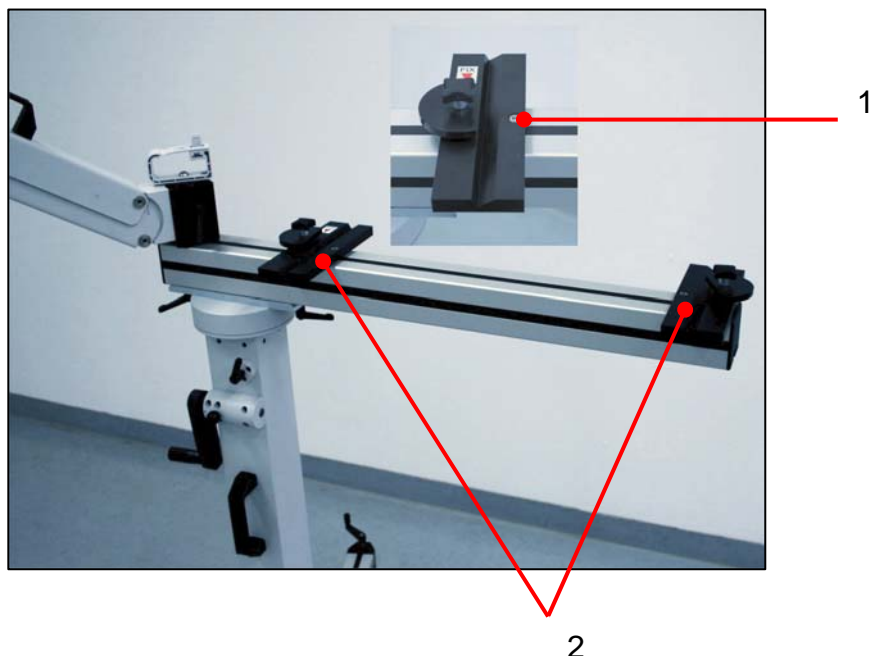

Fig. 28: Installation of the electronics unit holder
2. Secure clamp holder on the upper side of the cantilever into the threaded hole provided using the hexagon socket (see Fig. 28, pos. 1),